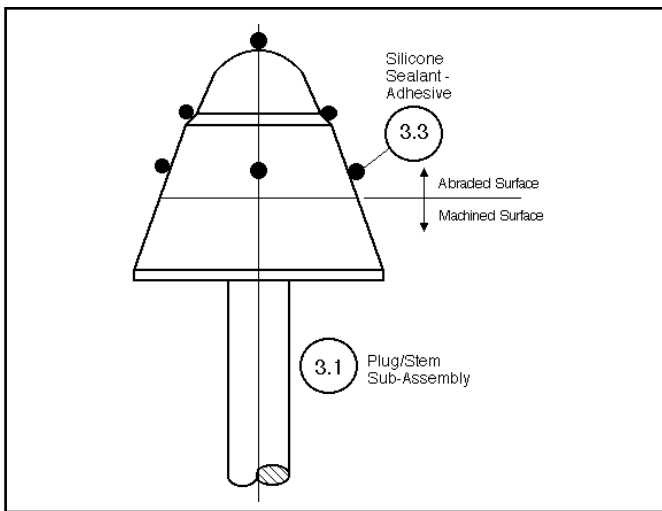

FIGURE 4: Adhesive Placement
4. Reference Figures 4 through 6 for identification of item numbers.
5. All item numbers that are with respect to the body assembly (BA) will be in parenthesis and not underscored; i.e. (1). All item numbers that are with respect to the actuator and positioner assemblies will be in parenthesis and underscored; i.e. (1).
11. Clean body (1) similar to plug/stem (3.1) of Article 9. above. Place body (1) back into vise.
13. Open the small container of silicone sealant/adhesive (3.3). Place seven "dabs" of adhesive (3.3) on the plug head-end (3.1) at the locations indicated in Figure 4. **DO NOT ATTEMPT TO SPREAD THE DABS!** Place a new diaphragm (3.2) over the plug head-end (3.1). Press down on the tip of the diaphragm (3.2) to spread the silicone sealant (3.3). Twist the diaphragm (3.2) back and forth several times while ensuring at least one complete revolution of the diaphragm (3.2) occurs. Starting at the tip of the diaphragm (3.2), press the diaphragm (3.2) against the plug head-end (3.1) to remove any air pockets.